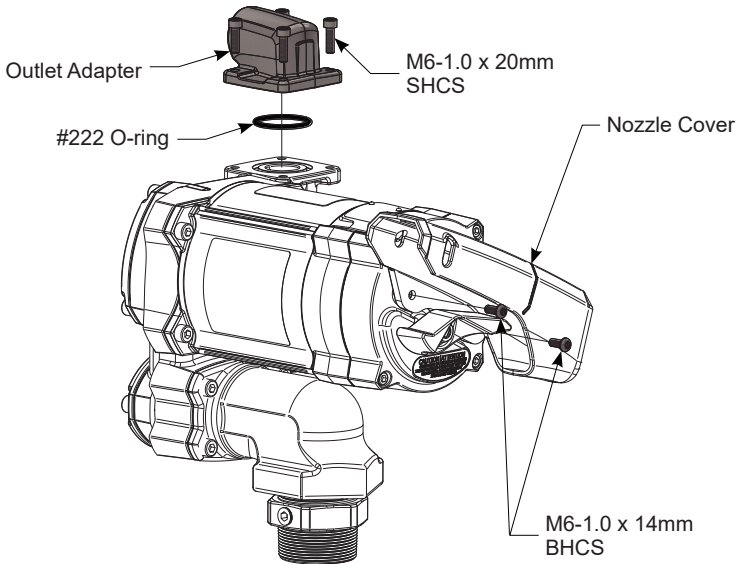

Figure 4
Using a 4mm Hex wrench, install nozzle cover using (2) M6-1.0 x 14mm BHCS in lower hole (see Figure 4).
3. Using a 5mm Hex wrench, install the (4) M6-1.0 x 20mm SHCS into the outlet adapter in desired direction on outlet port (see Figure 4).
This motor has a replicable switch and capacitor; kits are available in the event of a failure. To replace these components, first turn off the pump and disconnect from power. Then, disassemble the nozzle hanger and junction cover as shown previously assembled from figures 4 and 5 on pg. 11 and 12. Follow the instructions provided with the kit to replace the failed component(s). Reassemble the cover and hanger and reconnect power. Before transferring fuel with the pump, verify that the motor does turn on and that the pump is properly running in bypass; if this is the case, the pump is ready for standard operation again.